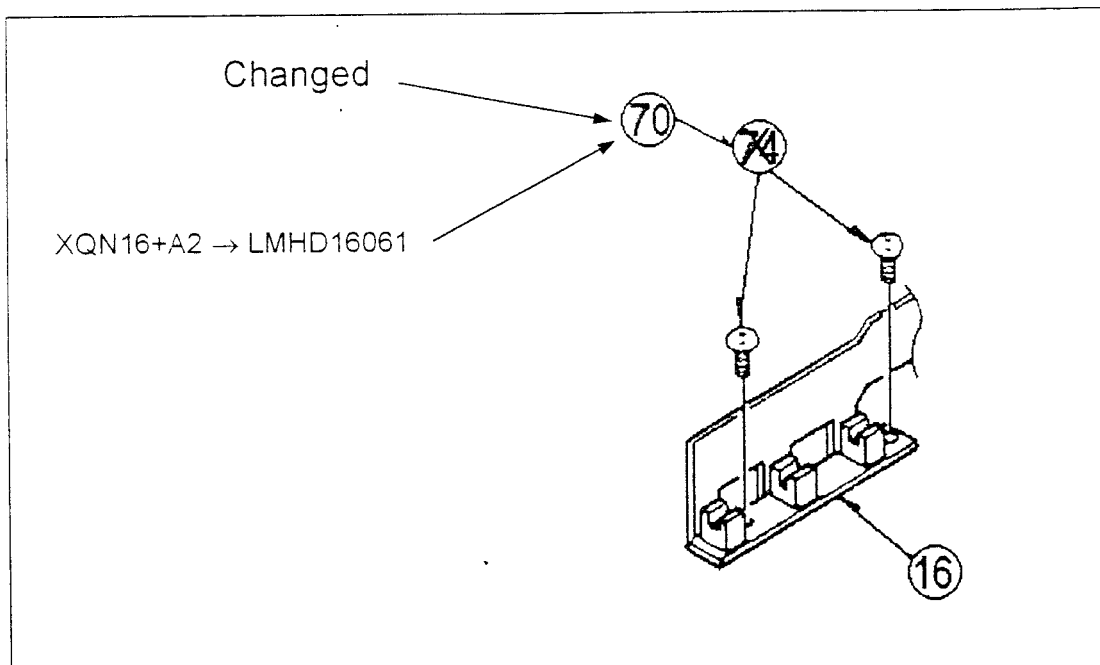

Fig. 4
- 4). Screws for Side Flexible are changed from XQN16+A2 to LMHD16061 as shown in figure 4.